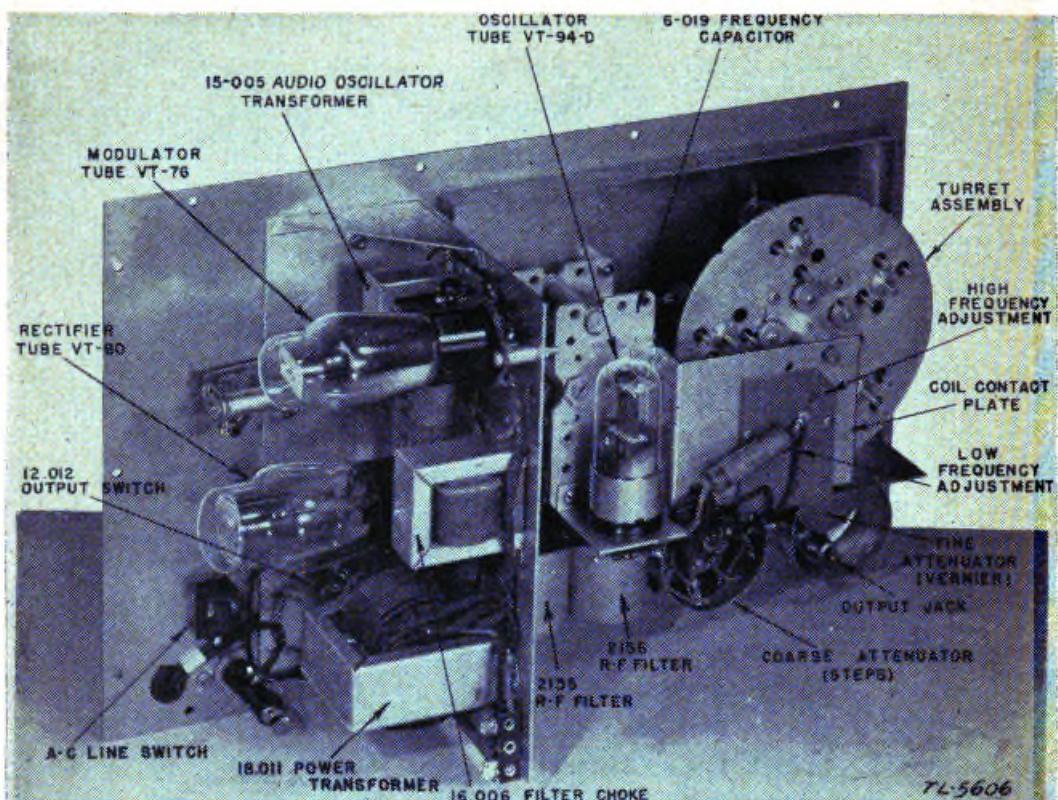

FIGURE 6.—Signal generator I-72-H—rear view of chassis with oscillator and attenuator covers removed.
**10. Attenuator.**—The attenuator is built in two sections in the round shielded compartments at the lower right of the chassis as shown in figure 6. The first section R-5, R-6, R-7, and R-8 consists of four steps, each giving increases of approximately 10 to 1 per step as the control is advanced from 1 to 4. The second section R-9 is a vernier to permit closer adjustment of the output levels between adjustment obtainable with the STEPS control. Maximum output is obtained when the STEPS control is set at 4 and the VERNIER control is set at the extreme right or clockwise position. When using the 400-cycle oscillator output through the attenuator, a maximum of approximately 1.2 volts is available. With the step attenuator in position 1, audio output will be zero.
**14. Tube replacement.**—Either tube VT-80 or tube VT-76 may be replaced without affecting the calibration of the instrument. Ordinarily, this is also true of tube VT-94-D although the frequency calibration should be checked after changing this tube before further use is attempted. If the calibration of the signal generator is thrown off by the replacement of tube VT-94-D, normal operation of the signal generator for a period of 24 to 48 hours will age the tube and usually restore the instrument to calibration. Calibration change will be most noticeable at the high-frequency end of band 5. Small changes in calibration can be corrected by means of the trimmer capacitor adjacent to each coil and accessible through the upper adjustment port in the oscillator shield can (see fig. 6). The chassis may be withdrawn by removing the fourteen binding-head screws which are at the edge of the front panel. The chassis is then removed by tilting the case forward.
as it is possible that the standard may be at fault. Only qualified personnel should attempt to recalibrate this instrument. Attention is directed to the adjustable iron core in each coil for the control of its inductance and to the five trimmers on the turntable assembly for control of the capacities of the individual bands. Adjustment should be made preferably through the two access ports provided in the rear of the oscillator shield can, with the shield in place (see fig. 6). Although the two adjustments for each band are not completely independent, it may be said that the iron slug has the greater control over the low-frequency end of each band and the trimmer over the high-frequency end. After the iron slug has been adjusted, the jam nut should be reseated to prevent shifting of the adjustment.